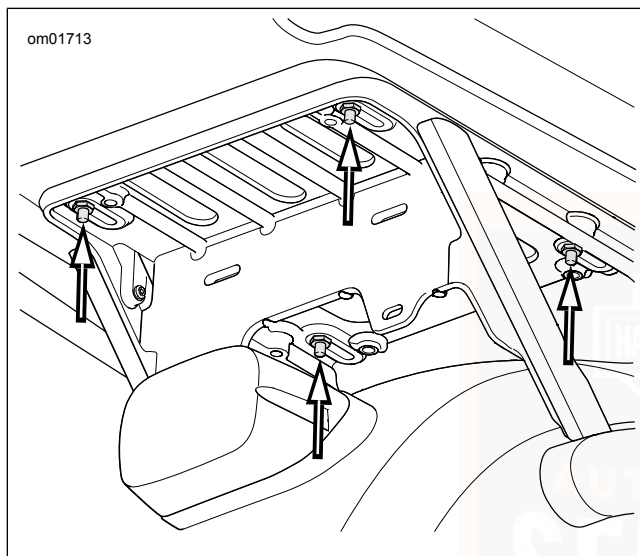

Figure 35. Tour-Pak Position Adjustment
1. See Figure 35. Loosen the four nuts securing the Tour-Pak to the support.